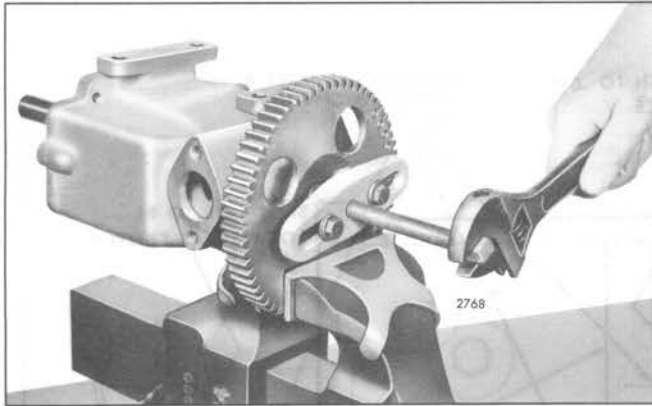

Fig. 11 – Removing Oil Pump Drive–Driven Gear
5. Attach puller J 24420-A to the pump driven gear. Place a couple of washers or a nut between the end of the pump shaft and the puller screw to protect the end of the pump shaft. Then remove the gear by turning the puller screw clockwise (Fig. 11).